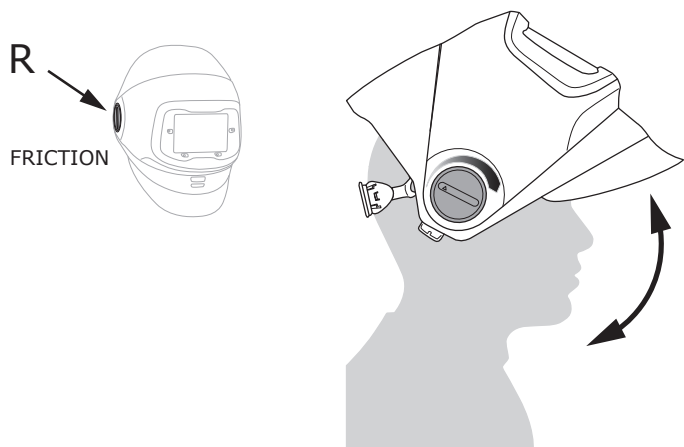

Fig. 6a
- To adjust the force or friction, turn the right-hand pivot knob labeled FRICTION clockwise to increase, counter clockwise to decrease (Fig. 6a).